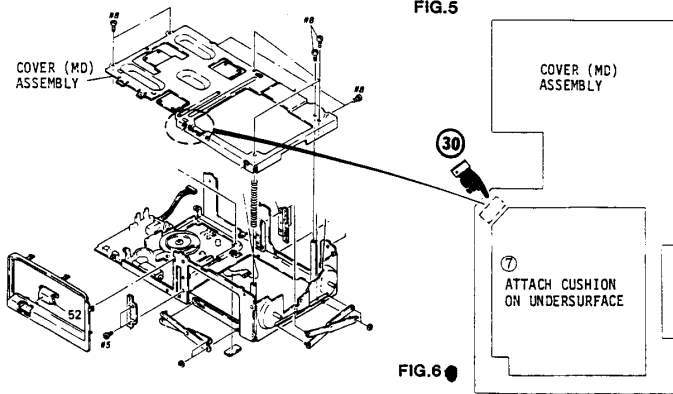

FIG.6
9C- Install the rubber cushion (figure 6, item 30) to the underside of the chassis top cover